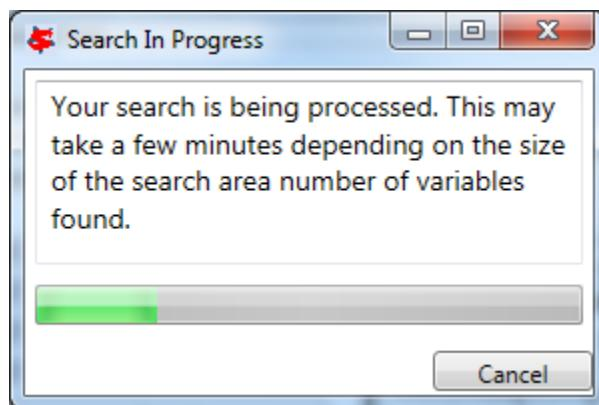

Figure 47: Variable Search, Search In Progress window.
12. The search box may be used to find the variables to configure. First search for all the variables in ADSA by entering “ADSA.” into the “Variable Search Pattern” box and then press “Enter.” This may take a short time, and the user may see the progress window as in Figure 47.